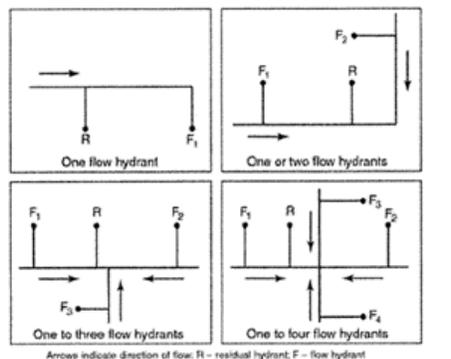

FIGURE 4.3.4 Suggested Test Layout for Hydrants.
- d. This Hydrant is chosen so it will be located between the hydrant to be flowed and the large mains that constitute the immediate sources of water supply in the area. In Figure 4.3.4, test layouts are indicated showing the residual hydrant designated with the letter R and hydrants to be flowed with the letter F.